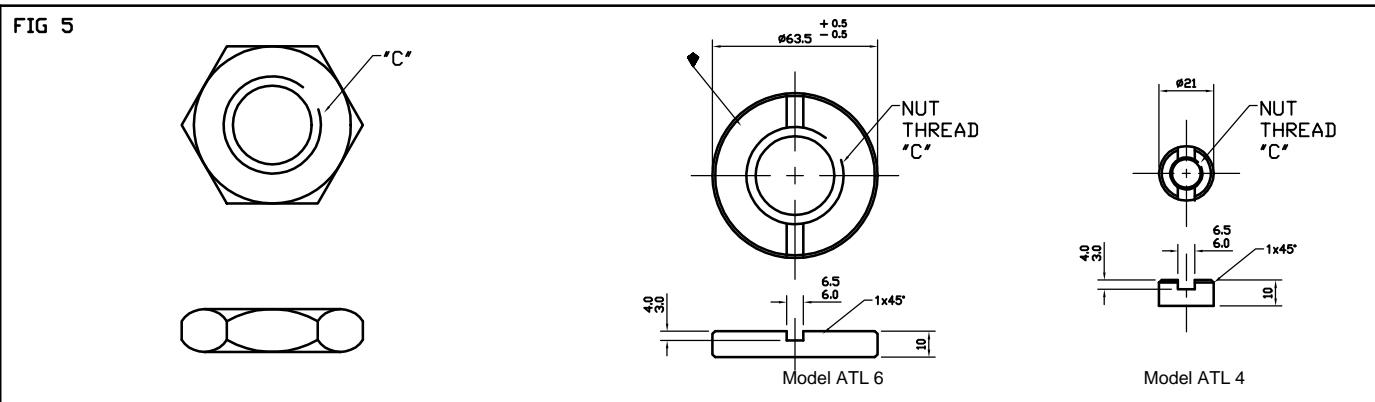

FIG 6
- 7) To prevent the retaining nut from vibration or uncontrolled removal a tamper screw is added (fig 6)
- 8) When the hoist Lever is installed using pins or other retaining screws these must also be added to the ATL adaptor part. When adding any additional screws or fixing screws please ensure that no fixing hole encroaches the bearing track with a minimum of 10mm (3/8”) clearance (fig 6)